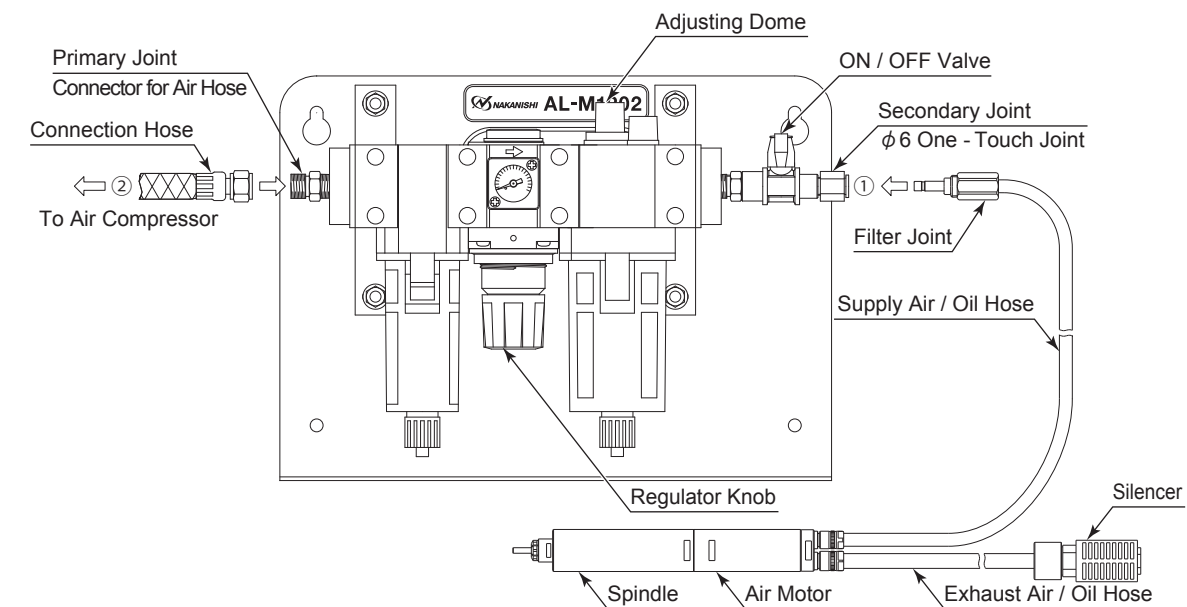

Fig. 5 Connection of Air Line Kit " AL - M1202 (Sold Separately) "
- Connect the Filter Joint of the supply air / oil hose to the Secondary Joint (  $\phi 6$  One - Touch Joint) of the Air Line Kit ( Fig. 5 ① ).
- Connect the connection hose (Air Line Kit's Standard Accessories) to the Primary Joint of the Air Line Kit and Compressor (Fig. 5 ② ).